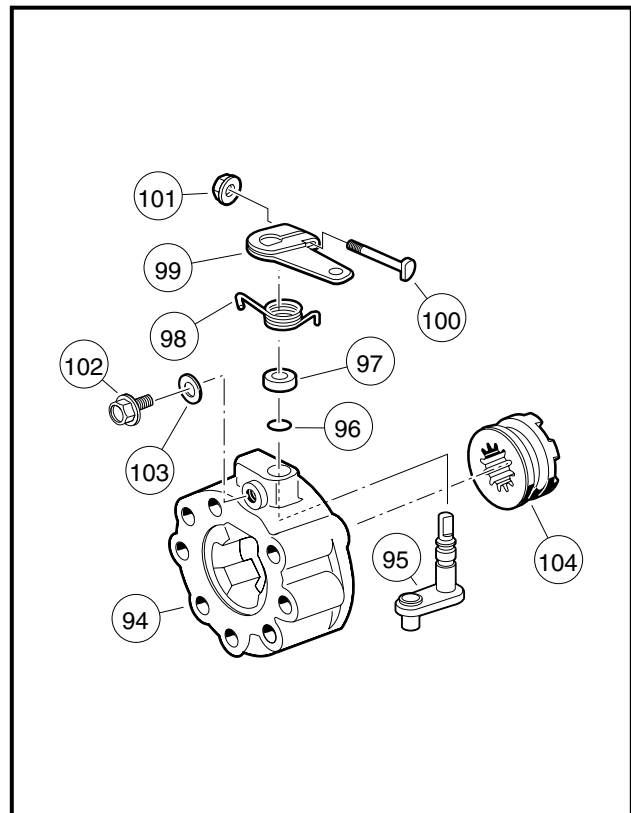

Figure 19-42 Differential Lock Housing Assembly
2. Place the shaft (95) into the hole in the differential lock housing (94) (**Figure 19-42, Page 19-21**).
3. Install the retaining screw (102) and washer (103) into the differential lock housing. Ensure that the screw is aligned with the second groove in the differential lock shaft before continuing to tighten the screw. Tighten the screw to 69 in-lb (7.8 N-m).
4. Place the spacer (97) onto the differential lock shaft.
6. Place the differential lock arm (99) on the shaft (95) and place the hooked end of the spring (98) on the arm.
7. Tighten the differential lock arm retainer nut (101) to 60 in-lb (6.8 N-m).
- 11.4. Rotate the differential lock shaft (95) and insert the cog (104) into the differential lock housing (94) (**Figure 19-42, Page 19-21**).